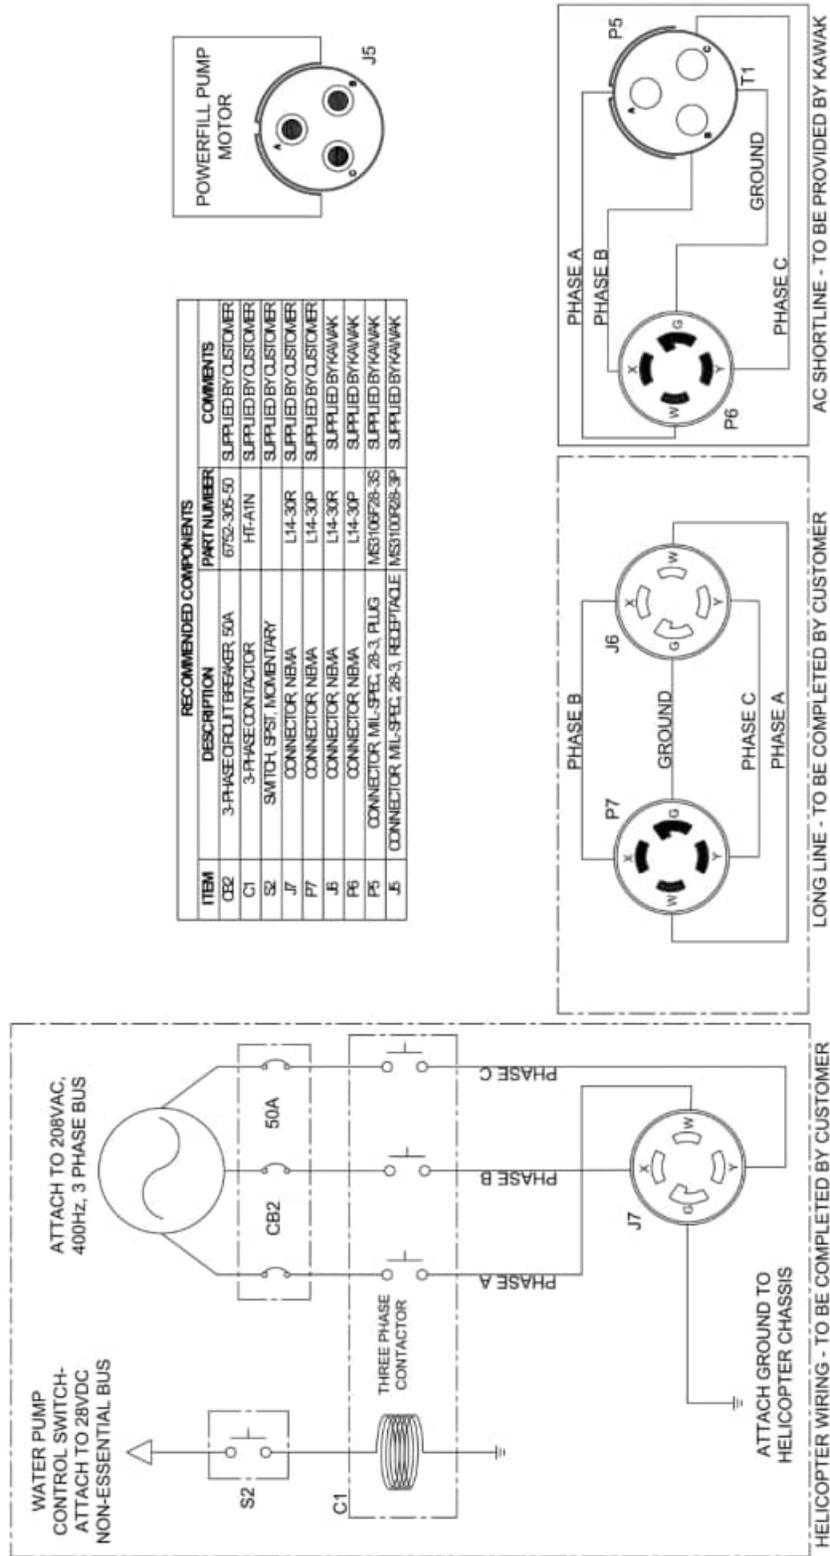

Figure 24: Wiring Schematic for 400Hz AC Bucket Refill Pump
The 400Hz AC bucket refill pump requires 38A at 208VAC and 400Hz. Refer to Figure 24 below for a schematic of a typical bucket refill pump installation. It is the responsibility of the operator to complete the wiring between the connector on the belly of the aircraft (J13) and a suitable AC power source.
****NOTE****: The bucket can be completely or partially filled depending on the length of time for which the switch is depressed. Refer to Figure 24 for the recommended installation of the Bucket refill pump electrical connections.